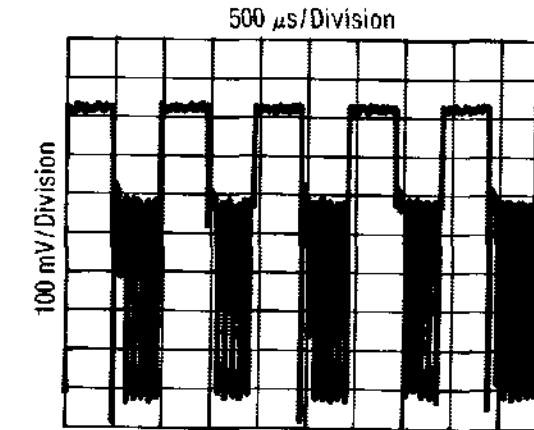
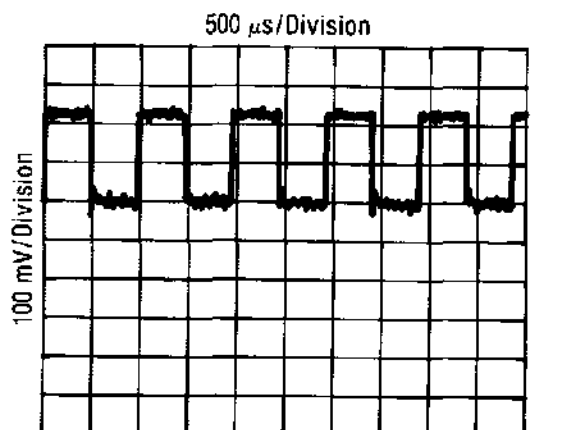

Figure 8-118. TP2 Waveform
Figure 8-119. TP2 Waveform, Pulse Mode
8. Set the oscilloscope controls as indicated in Figure 8-118 and connect the oscilloscope to TP2.
The waveform should be as shown in Figure 8-118. The low part of the waveform may be unstable, and can be ignored.
The waveform should initially be as shown in Figure 8-118, then change to the waveform shown in Figure 8-119. The low part of the waveform should now be stable.